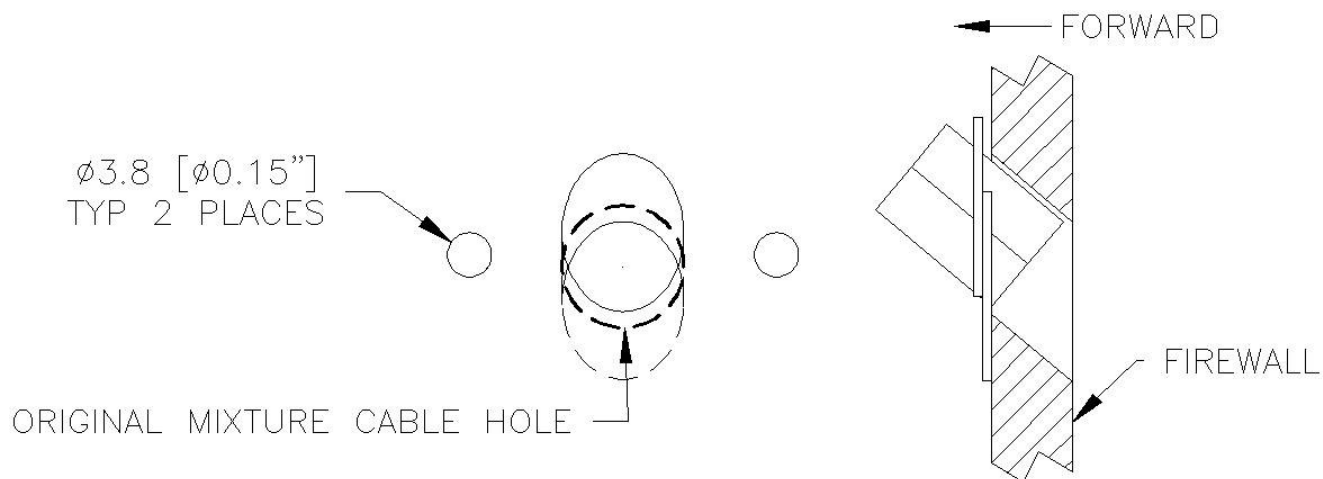

Figure 5: Firewall Holes
- 10.19** Open the existing mixture cable hole at a 45 degree angle (aft and down) using a round file, so that the angled split bushing fits in the hole with the flange sitting flat on the firewall (see Figure 5).
- 10.20** Locate the new holes in the firewall using the bushing and drill two holes, diameter 0.15" (3.8mm), as shown in Figure 5.
- 10.33** Install the Mixture Firewall shield lower and upper halves using two AN526C632R8 screws with AN960C6 washers and MS21042-06 nuts. Make sure that the flange of the upper shield is on top of the flange of the lower shield, as shown in Figure 5.